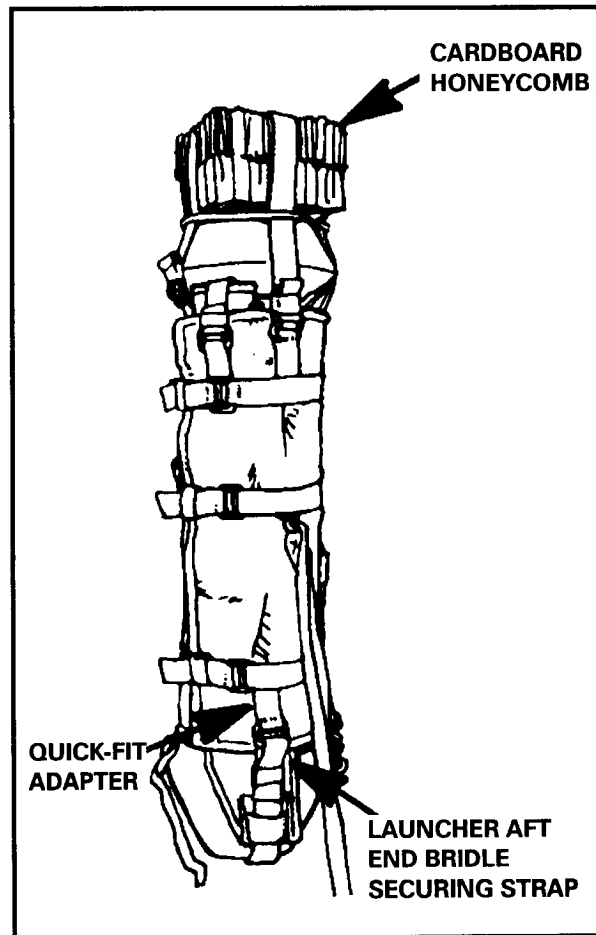

Figure 12-35. Honeycomb squares secured.
(1) Route the missile launcher aft end bridle securing strap through its quick-fit adapter and tighten, using a quick-release fold.
(2) Secure two 9-inch-square blocks of cardboard honeycomb energy dissipator across the forward shock absorber of the missile, using the launcher forward end securing straps. Tighten the straps and form an "X" over the center of the honeycomb. Secure the straps using a quick-release fold (Figure 12-35). Tie one turn of 1/4-inch cotton webbing around the X formed by the launcher forward end, securing straps in a surgeon's knot and locking knot. Tie another one turn of 1/4-inch cotton webbing around the launcher forward end, securing straps below the cardboard honeycomb energy dissipator in a surgeon's knot and locking knot.